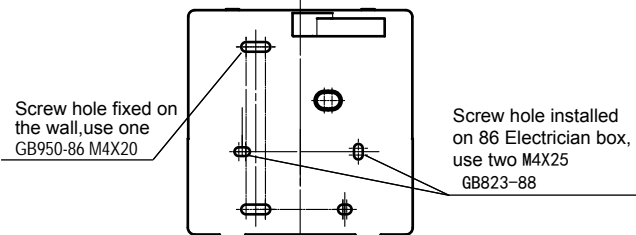

Fig.7.1
3. Use two M4X25 GB823-88 screws to install the back cover on the 86 electrician box, and use one GB950-86 M4X20 screws for fixing on the wall. (Fig.7.1)